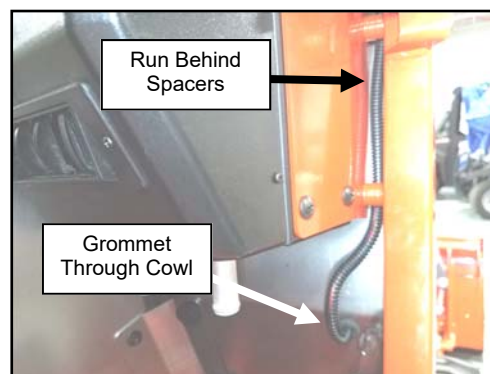

Fig. 19.6 (Pass Wire Harness Through Cowl)
19.6 Slide the provided 3/8" ID rubber grommet over the free end of the wire harness and install through the 1/2" hole in the cowl. See Figure 19.6.